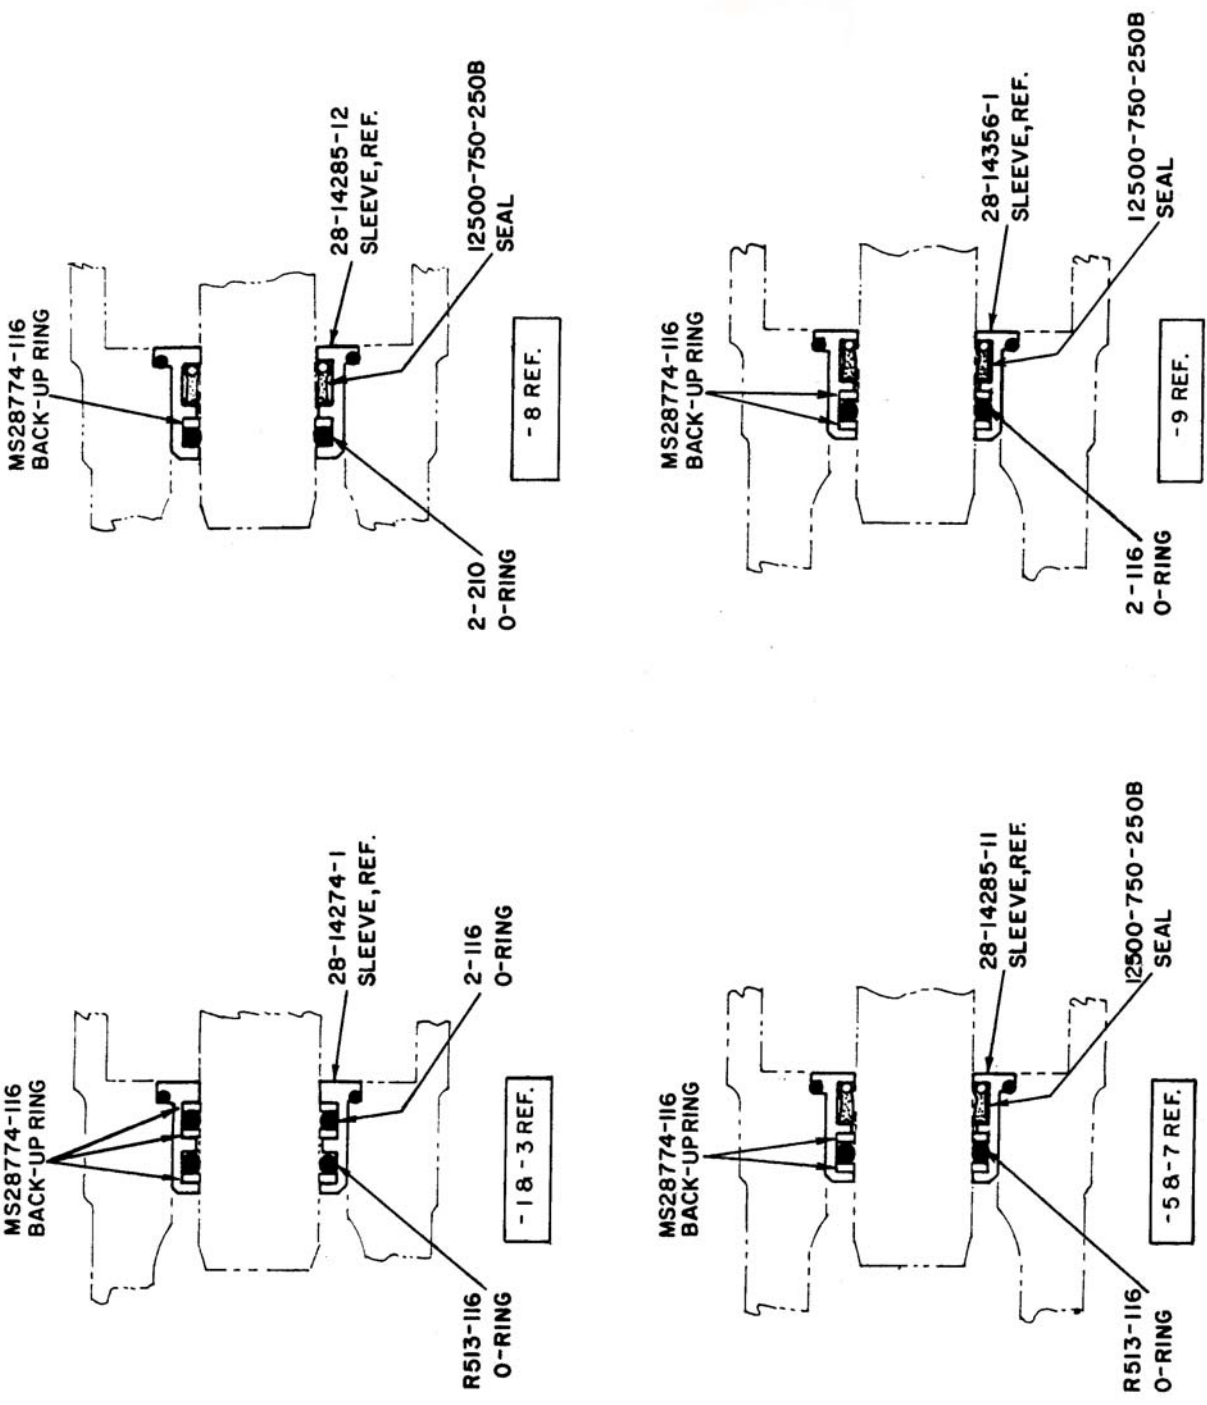

FIGURE 1.
- (12) Tap piston up using nylon drift until piston can be lifted from 28-14266 housing. Remove fluid.
- (13) Remove seals, O-rings from brass sleeves and note location (ref. Figure 1 for configuration).
- (14) Remove 2-326 O-ring from piston.
- (15) Discard O-Ring and seals and clean parts for inspection.
- (16) Inspect brass sleeve I.D. for scoring; replace if I.D. exceeds .750/.751 or scores in excess of .001 are evident on all lands.
- (17) Install O-ring and seals in brass sleeve.
NOTE: Removal of brass sleeve from 28-14266 housing or 28-14265 cover is not recommended when damper is being repaired in the field. Ref. Figure 1 for proper seal and O-ring configuration.